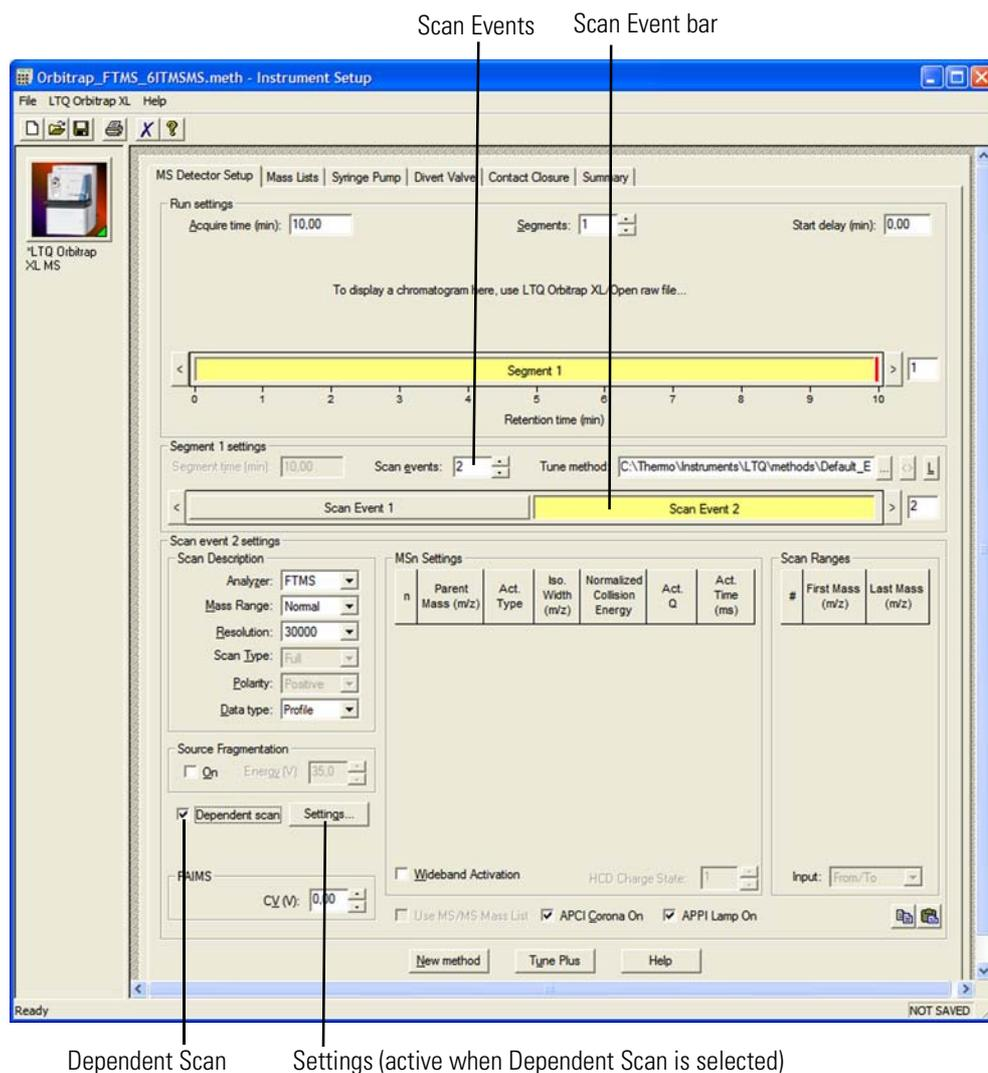

Figure 8-34. Xcalibur Instrument Setup
6. Choose Scan Events to be 2 or more in the Segment 1 Settings portion of the MS Detector Setup view. See Figure 8-34 on page 8-36.
7. Select the Scan Event 2 bar (or the bar for a Scan Event >2). See Figure 8-34.
8. Select the **Dependent Scan** check box at the lower left corner of the MS Detector Setup view. (See Figure 8-34.) The adjacent **Settings** button becomes active.